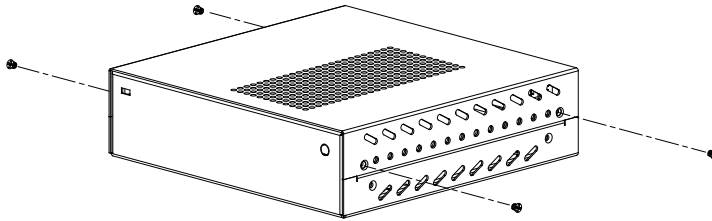

Figure 1- Unscrew 4 screws.
1.2.1 -Remove the flathead screw fastening the top cover to the base (Figure 1),